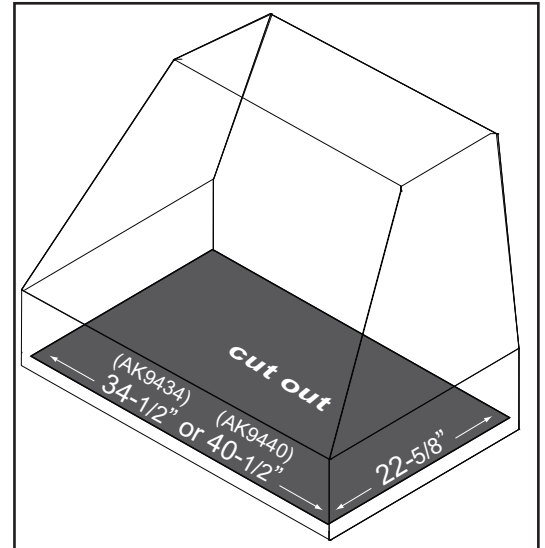

FIG. 1
2. Cut out an opening in the bottom of the cabinet by following the dimensions in FIG. 1. If ducting the insert horizontally, also cut out an opening in the back of the cabinet (if applicable). FIG. 2.